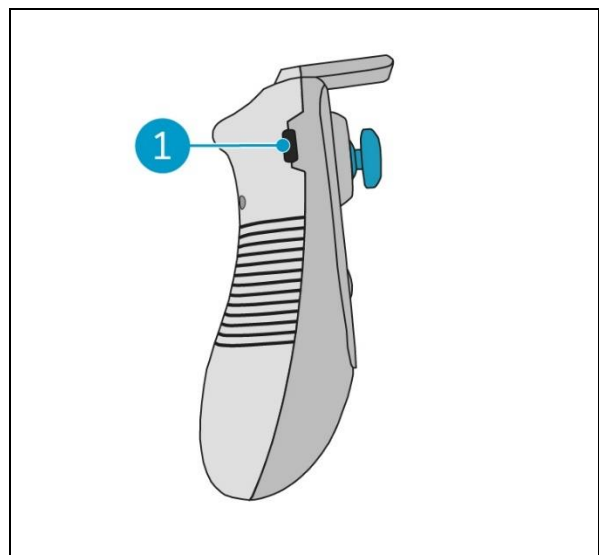

Figure 12
1. Connect the USB-C connector from the USB-C to USB-A cable to the USB-C port (Figure 12, pos. 1) of the remote control, see Figure 12.